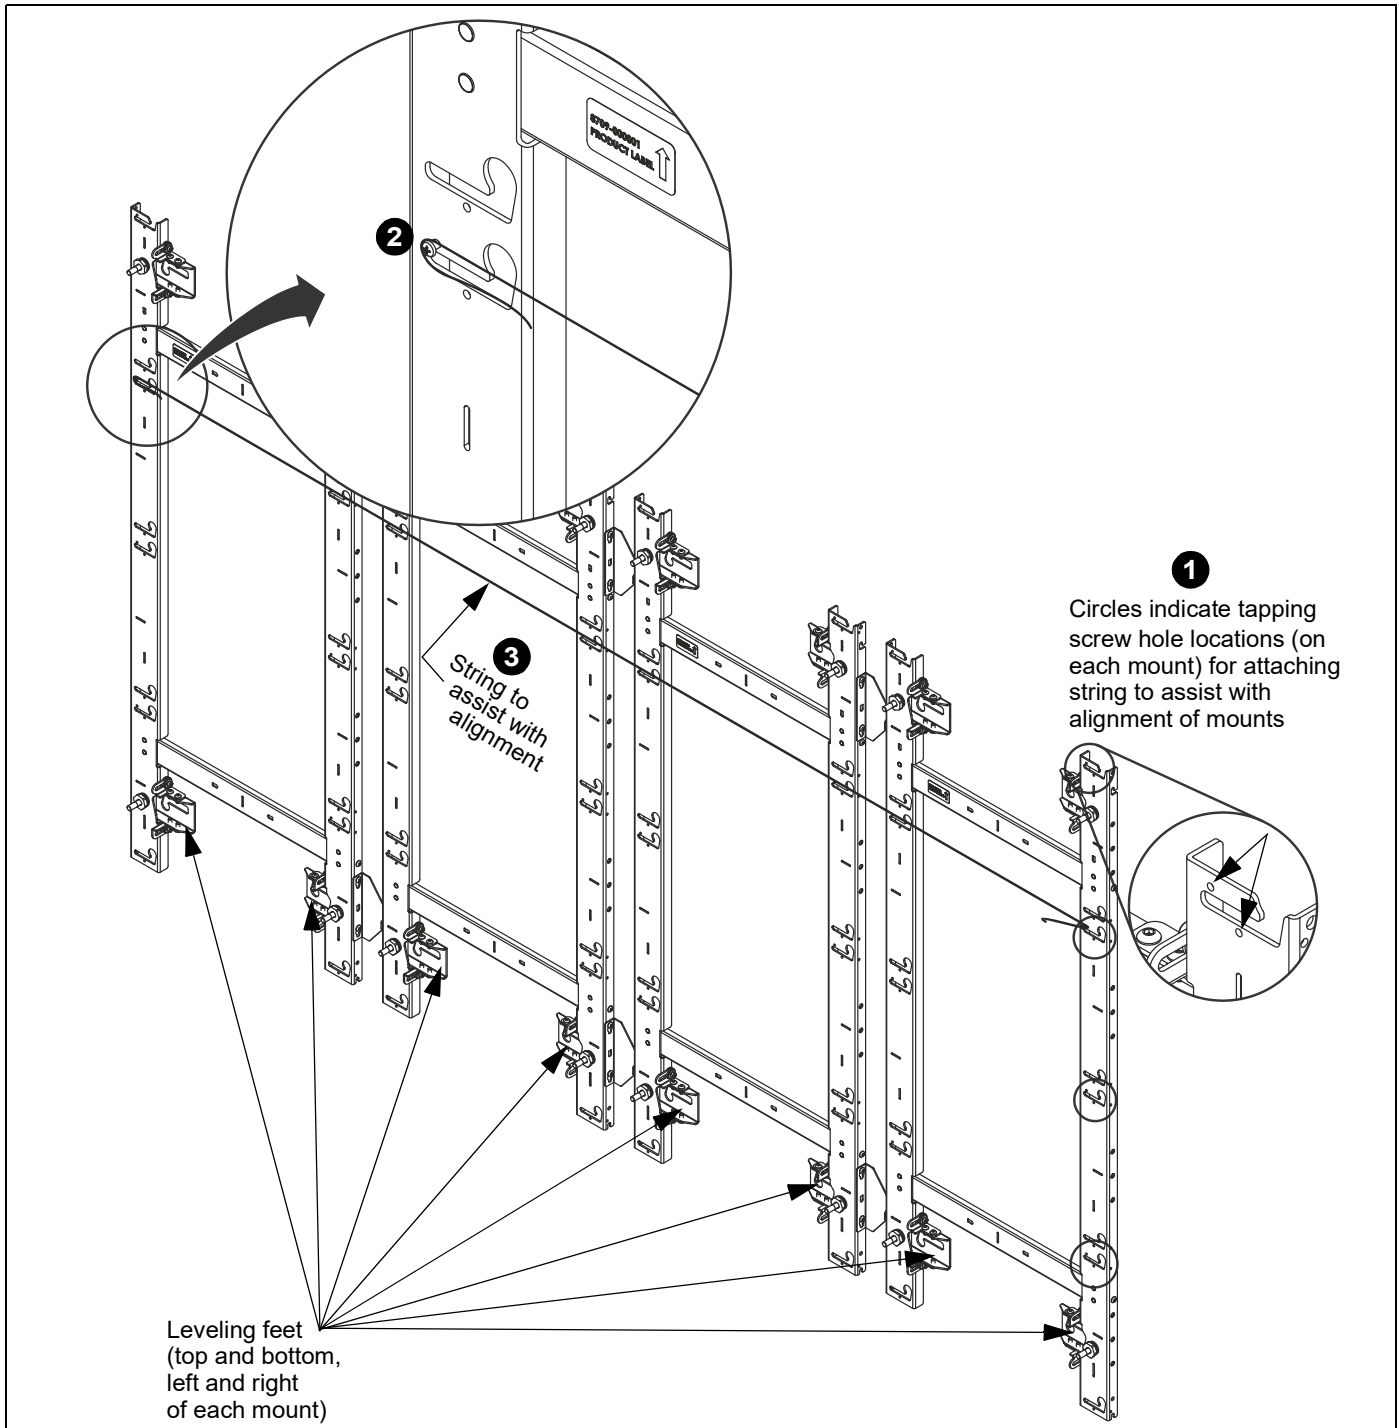

Figure 17
NOTE: There are multiple points on each mount where the screws can be installed for the plumb line. (See Figure 17)
2. Loosely install the self-tapping screws then wrap the string around the screw and tighten. (See Figure 17)
3. Run the string tightly between the same hole at each end of the row of mounts. (See Figure 17)